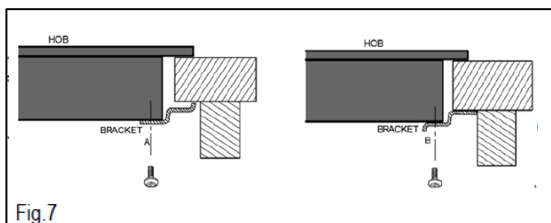

Fig.7
3. Secure the hob to the worktop using brackets and screws supplied, as shown in Fig.7. Remove any excess sealant after tightening the brackets. Do not over-tighten the fixi